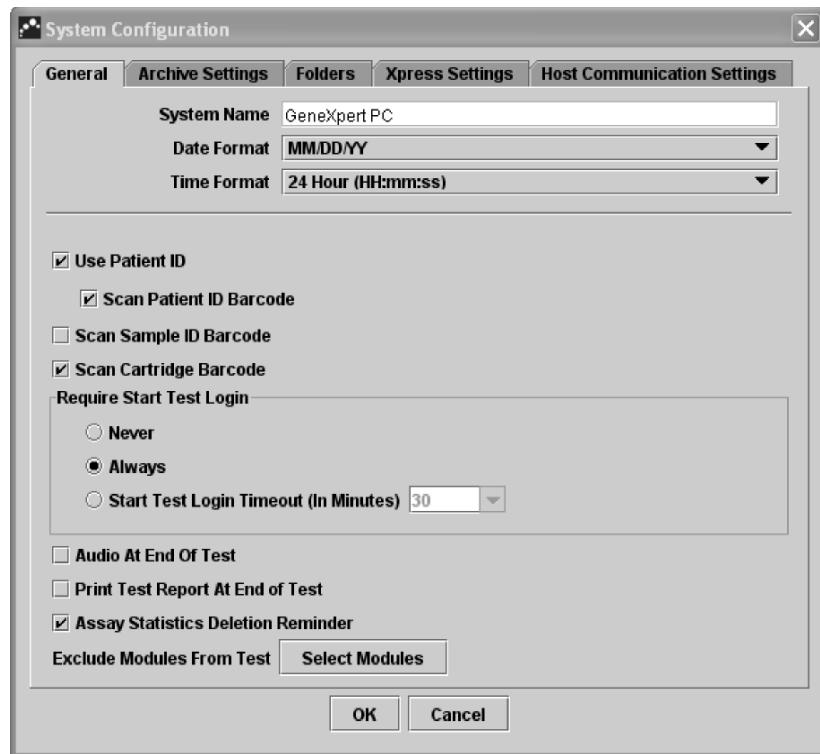
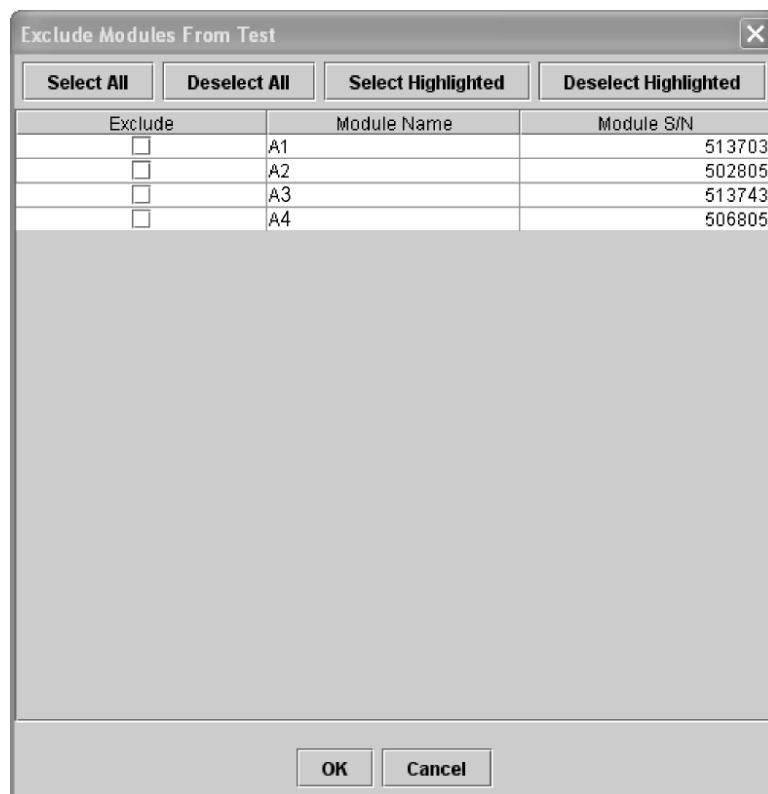

Figure 2-24. System Configuration dialog box (General window)
Figure 2-25. Exclude Modules From Test dialog box
1. In the GeneXpert Dx System window (Figure 2-15), click **Setup** on the menu bar, then click **System Configuration**. The System Configuration dialog box and the **General** window appears (Figure 2-24).
1. On the **General** window of the System Configuration dialog box (Figure 2-24), click **Select Modules**. The Exclude Modules From Test dialog box appears (Figure 2-25).
3. Press the **OK** button to save changes to the Exclude Modules From Test dialog box (Figure 2-25).